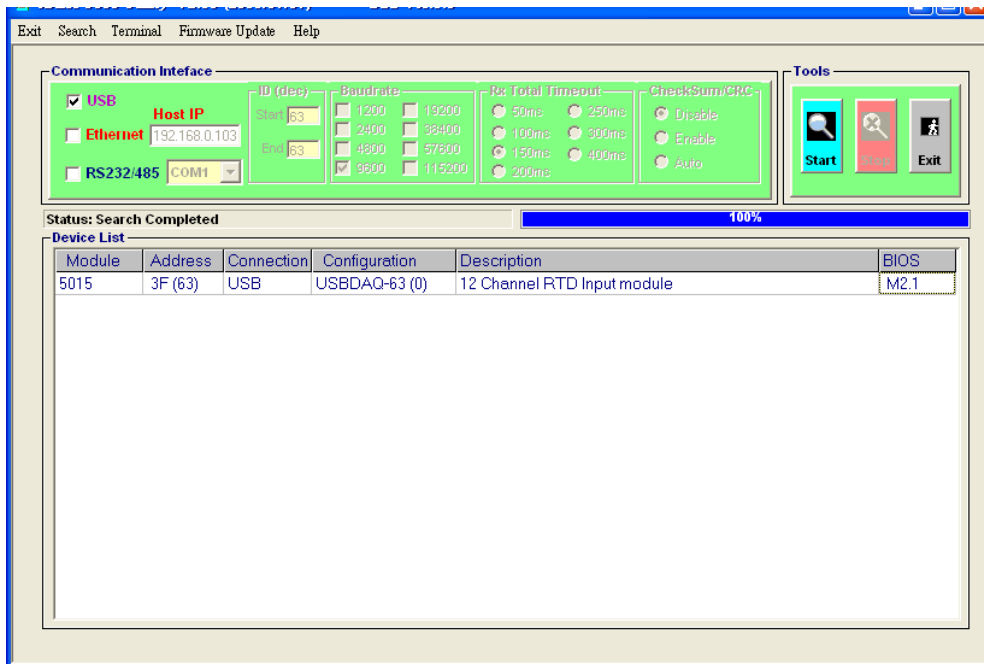

Figure -3
- 3. Executes provided EX-5000 utility called "E5KUtility.exe" (see Figure -3)